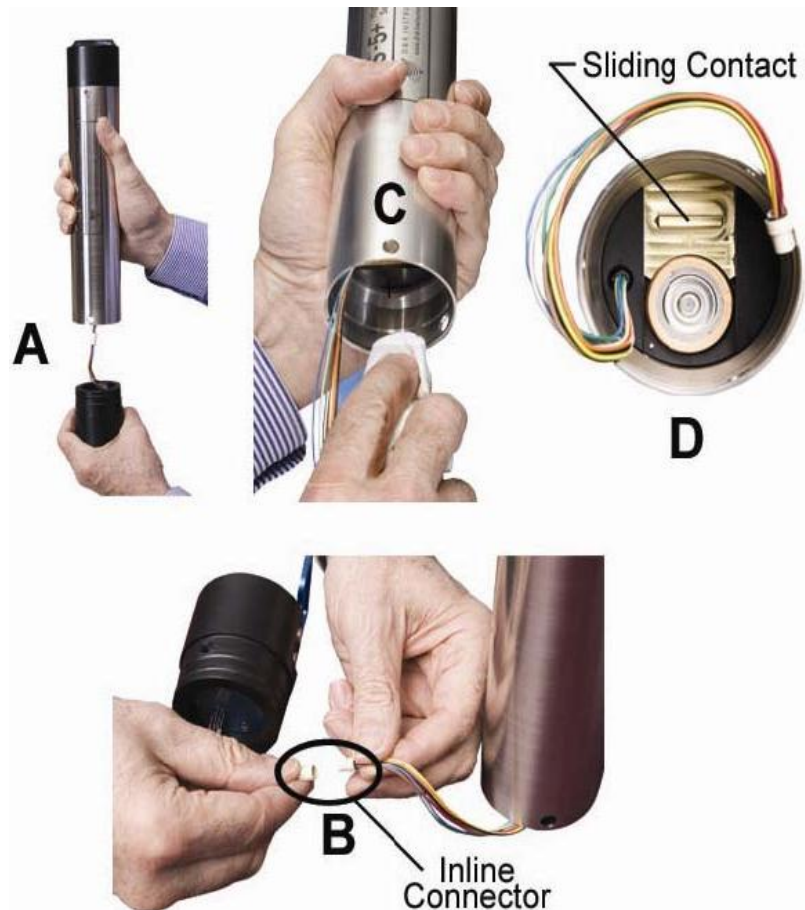

Figure 6-2. Battery installation: A) end cap removal, B) wiping, C) cable disconnect, and D) battery contact
Remove the set screws from the end cap with the handle and connector. If the unit was submerged during the previous day, turn the sensor end up, so water around the O-rings can drain out when the end cap is removed, Figure 6-2 (A). Pull end cap out and disconnect the inline connector (B). Wipe water from the inside wall of the housing tube with a paper towel (C). Turn the connector end up and push the ridge on the battery sliding contact until the spent batteries pop out (D). Insert new batteries with the positive terminal (+) toward the sliding contact. Push the batteries down and slide the contact over the top of them and against the housing wall. Inspect the O-ring in the cap, clean and grease or replace it if necessary, and replace the cap and set screws.